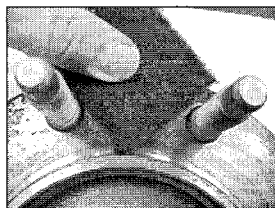
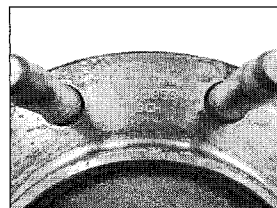

Figure 3
Figure 4
4. Clean rust from hub assembly face (**Figure 3**) to check for the date code stamping (**Figure 4**).